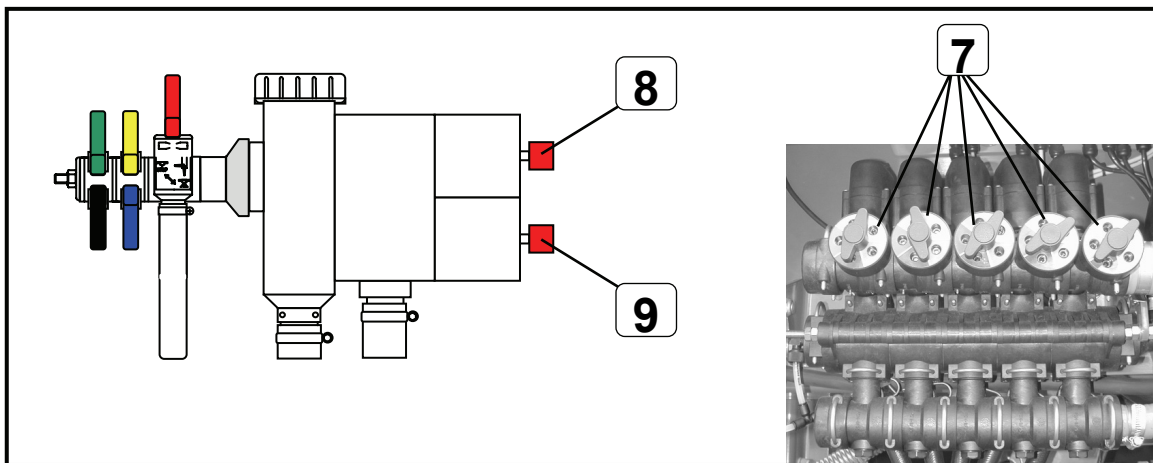

Fig. 2
When the switch is operated (4), the spraying computer automatically switches from **Automatic** to **Manual mode**. At the same time, the pressure regulation motor (8) (fig. 2) is actuated in the direction in question (+ or -) as long as the switch (4) is held down. The spraying pressure (bar) can thus be altered manually. The actual spraying pressure can be read of the manometer on the machine
Motor (9) (fig. 2) for the agitator switch-off is actuated via switch (5). The return agitator can be switched off as required, e.g. for complete emptying of the container or also for foaming pesticides.